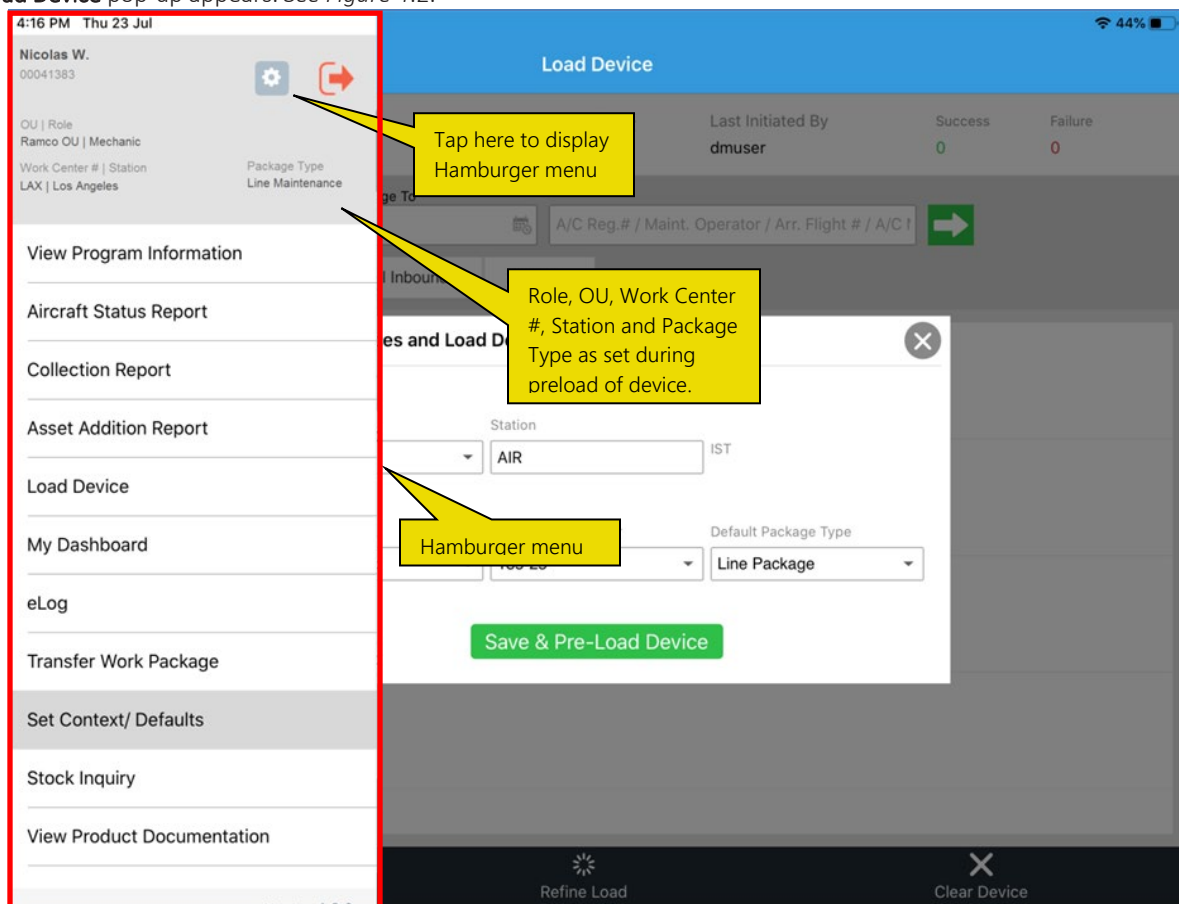

Figure 4.2: Setting preferences and loading device with data
1. If both **OU Instance** and **Station** are not defined for **LineAnywhere** in the current offline device, the **Set Preferences and Load Device** pop-up appears. See Figure 4.2.